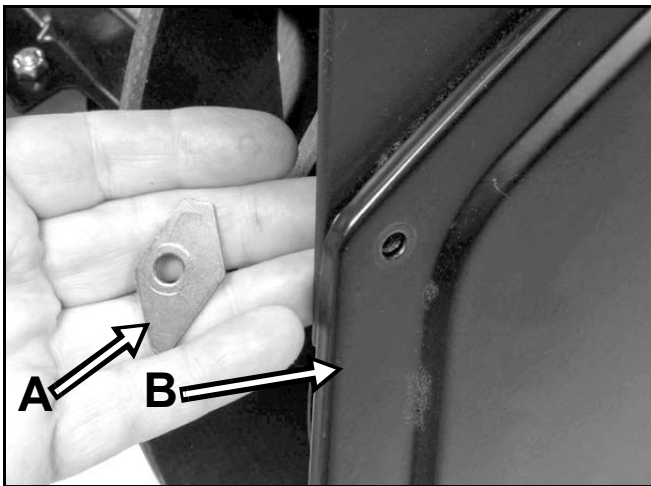

Figure 39 3428-0230
**NOTE:** The first year only there was a special diamond shape washer used in the front top hole. Subsequent years use a standard washer (Figure 39).